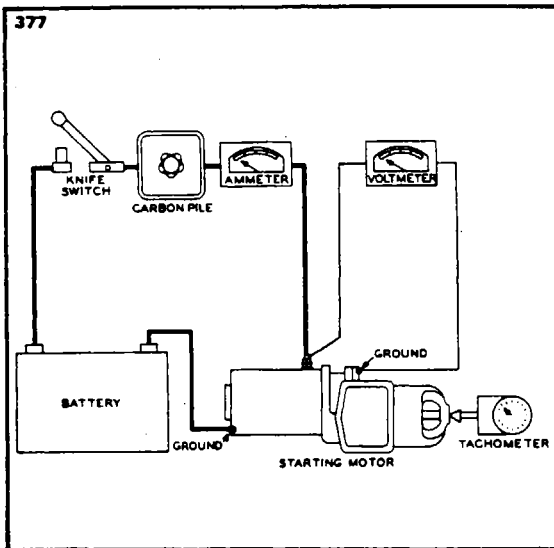

Figure 11-64. No-Load Test Hook-up
- a. After the starting motor is reassembled, it should be tested to see that the no-load current at a certain voltage is within specifications as given in paragraph 11-131. To make this test, connect as shown in Figure 11-64. If current is too high, check the bearing alignment and end play to make sure there is no binding or interference. Two or three sharp raps on the frame with a rawhide hammer will often help to align the bearings and free the armature.